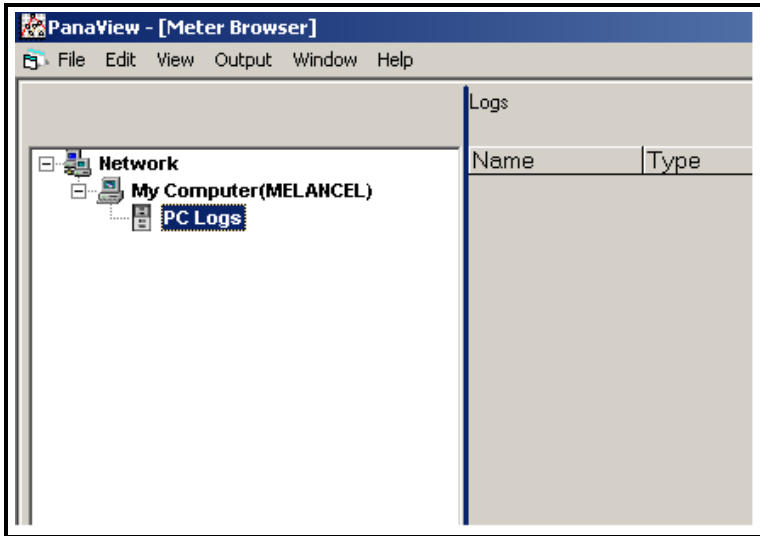

Figure 4-4: The PC Logs Branch
2. Fully expand the network tree by clicking on the “+” sign next to the *My Computer(Name)* branch (see Figure 4-4 below).
1. Open the “*New Meter Browser*” window and expand the network tree as shown in Figure 4-4 on page 4-5. Then, highlight the *My Computer(Name)* branch by clicking on it.